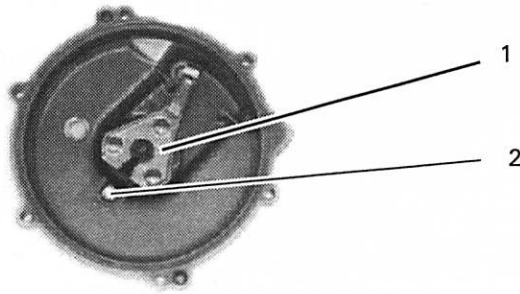

Figure 57
The clutch release mechanism (1, Figure 57) is mounted inside the clutch release cover.
- Remove the Taptite screw (2, Figure 57), leaf spring and thrust washer.
Apply Loctite 221 (violet) onto the Taptite screw threads. Then install and tighten the Taptite screw (2, Figure 57) securely.